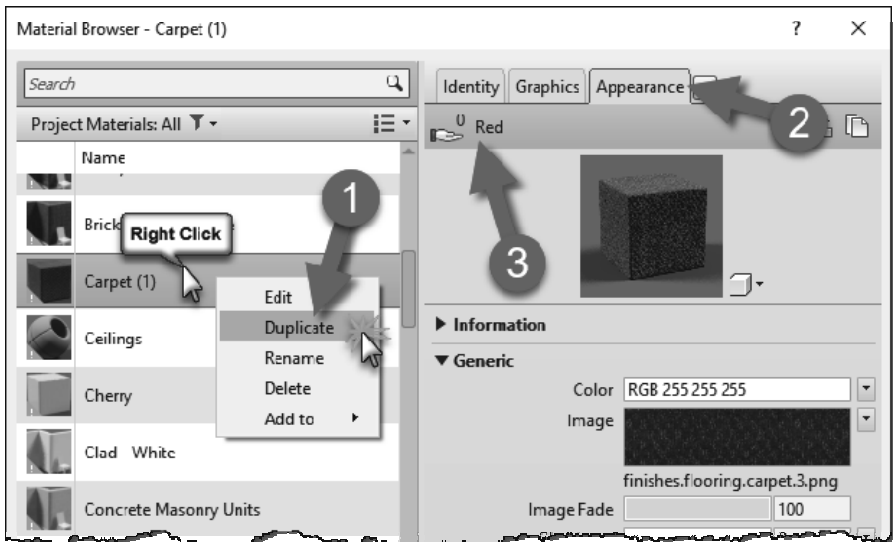

FIGURE 4-2.18 Duplicating a material
If you **Duplicate** a *Material* in your model, the **Appearance Asset** will be associated to the new *Material* AND the *Material* you copied it from! For example, in Figure 4-2.18, we will right-click on Carpet (1) and duplicate it. Before we duplicate it, notice the *Appearance Asset* named “RED” is not shared (arrow #3 Figure 4-2.18).